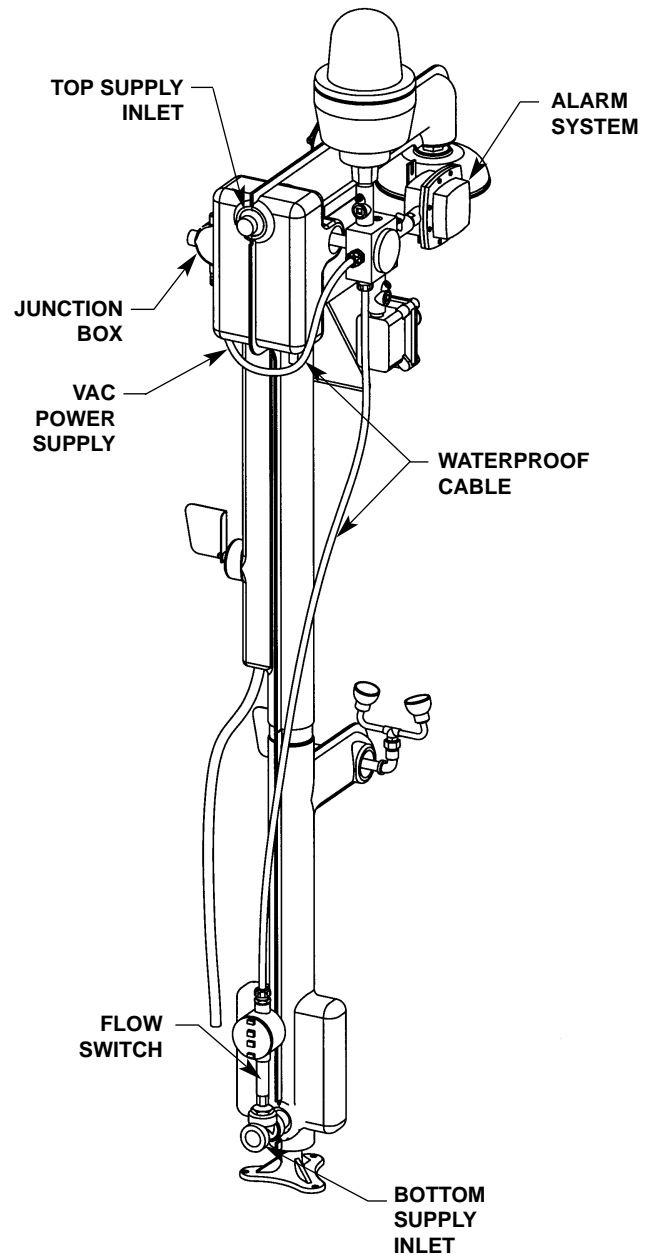
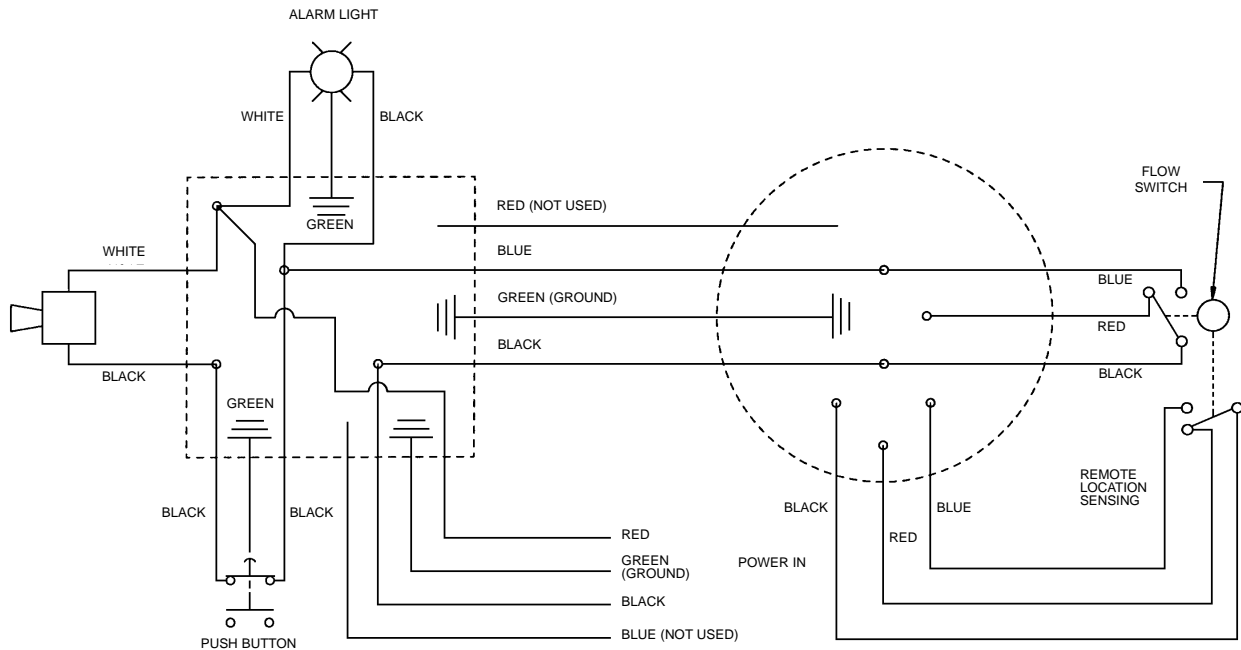

Figure 1
Figure 2
*NOTE:* Because the flow switch will attach to the mounted alarm via a 7-foot waterproof cable, the installer must keep the location for mounting the alarm in mind when choosing the flow switch location (see Figure 1).
1. Choose a location for mounting the flow switch in a horizontal run of the water supply line. The inlet and outlet ports of the flow switch must be a minimum of 6 inches from any tees or elbows in the water supply line (see Figure 1).
- The alarm may be mounted directly to the drench shower piping using the supplied mounting hardware (see Figure 1 on page 4).
1. Connect the flow switch to the alarm by installing a conduit connector to the end of the 7-foot waterproof cable and into the flow switch junction box (see Figure 1 on page 4 and Figure 2 below).